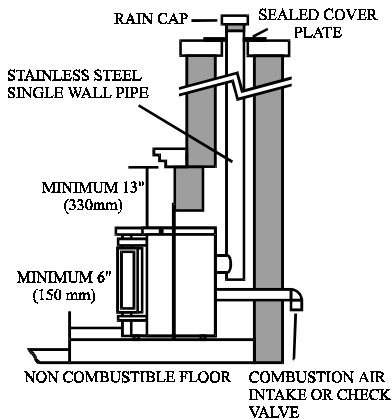
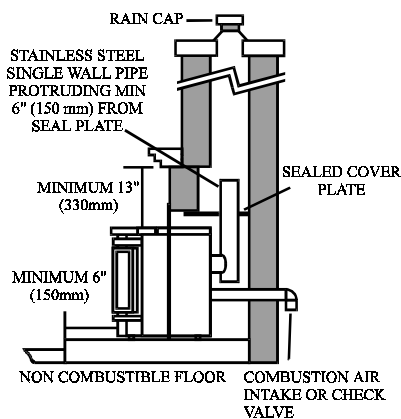

Figure 9A. Factory built zero clearance or masonry fireplace insert installation
Figure 9B. Factory built zero clearance or masonry fireplace insert installation
1. The room air must be sealed from the exterior. This can be achieved by sealing the chimney cavity to the liner either at the terminal (see figure 9A) or at the chimney damper (see figure 9B).
3. When installing an insert, a full height listed chimney liner must be attached to both the insert flue collar and to the chimney top as shown in figure 9A or a partial chimney liner may be attached to the insert flue collar and extending a minimum of 6 inches into the chimney cavity as shown in figure 9B. The junction of the chimney liner to the seal plate must be properly sealed. This chimney liner must be stainless steel.